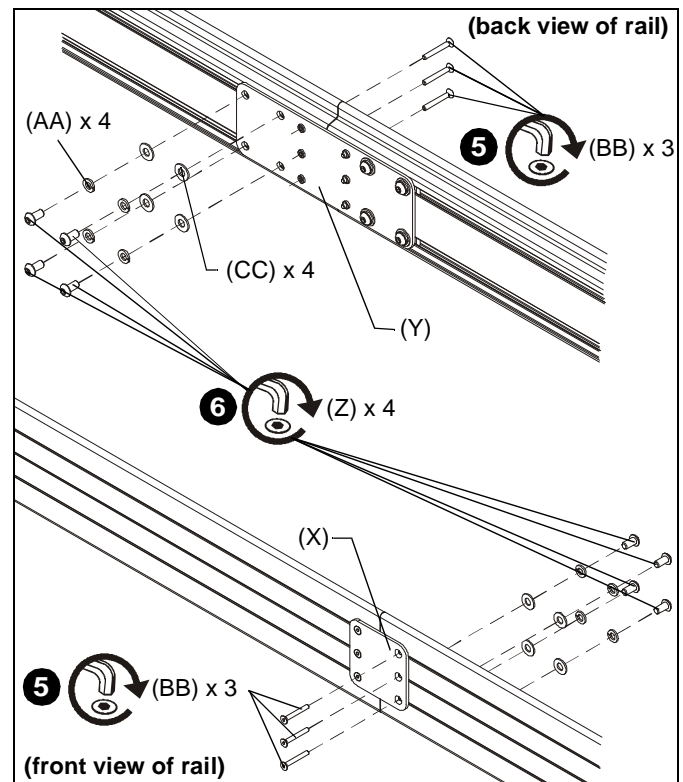

Figure 4
- Secure connector bracket (X) to front of 60" section of mounting rail (GG) using three 10-24 x 1-1/2" flat head cap screws (BB) fastened through one side of connector bracket, mounting rail, tie bars (FF) and into connector plate (Y). (See Figure 4)
- Additionally fasten connector plate (C) using four 5/16 x 5/8" button head cap screws (D), four 5/16" split washers (B), and four friction washers (F). (See Figure 4)